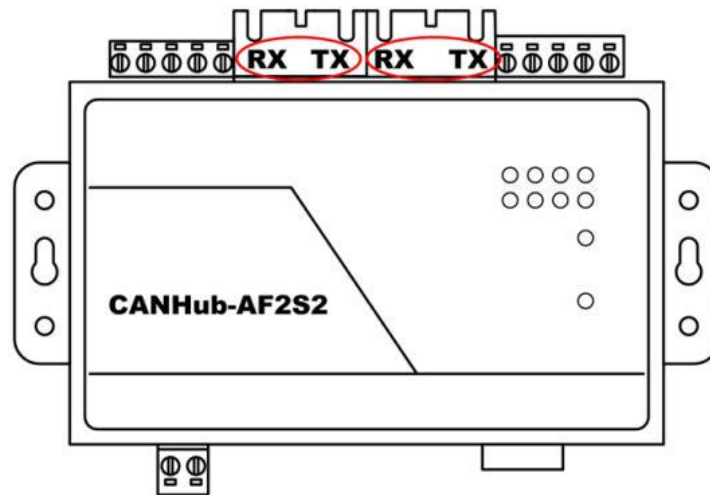

Figure 3.7 CANHub-AF2S2 optical interface
CANHub-AF2S2's two optical fiber interface structure is very simple. Each fiber optic interface has only two ports that provide fiber optic connections: one is the fiber optic output port (TX), and the other is the fiber optic input port (RX). See Figure 3.7.